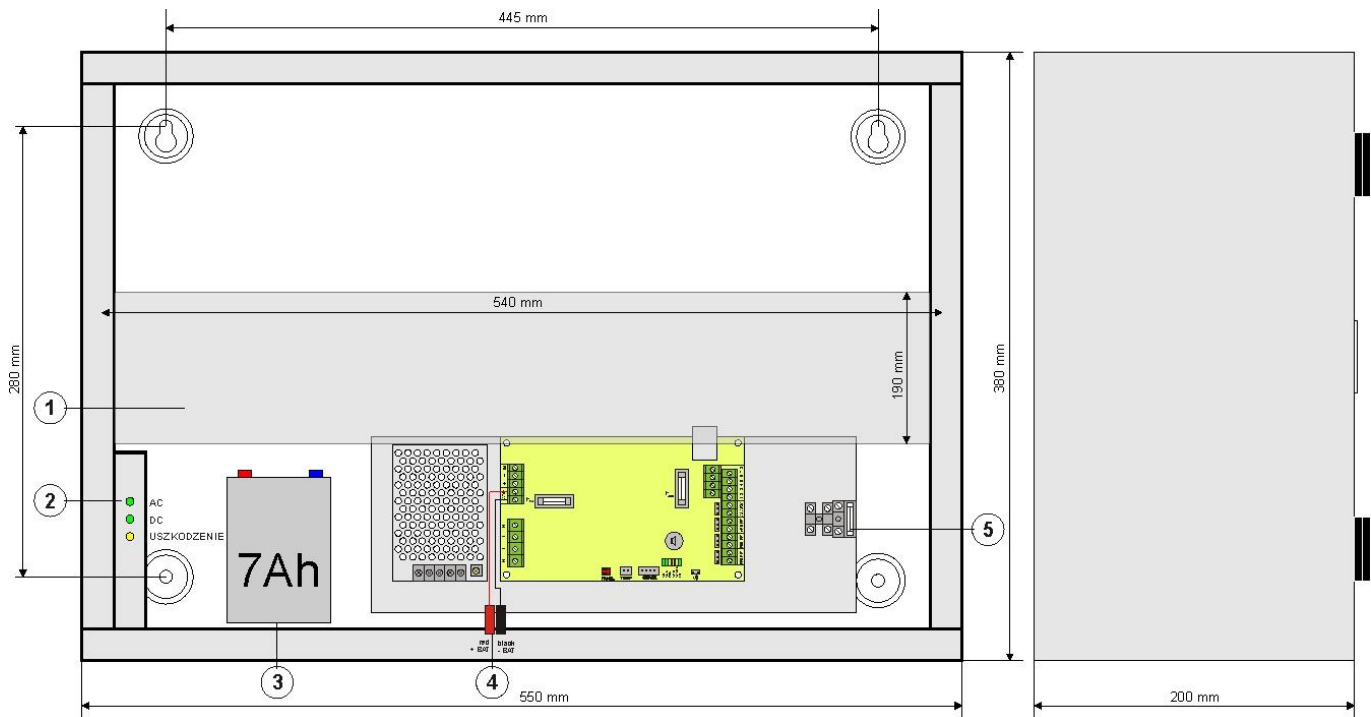

Fig.3. The view of the power supply unit.
Table 2. Components of the power supply (see Fig. 3).
7. Insert the battery in the designated compartment of the enclosure (Fig. 3 [3]). Connect the battery with the power supply board paying special attention to the correct polarity.